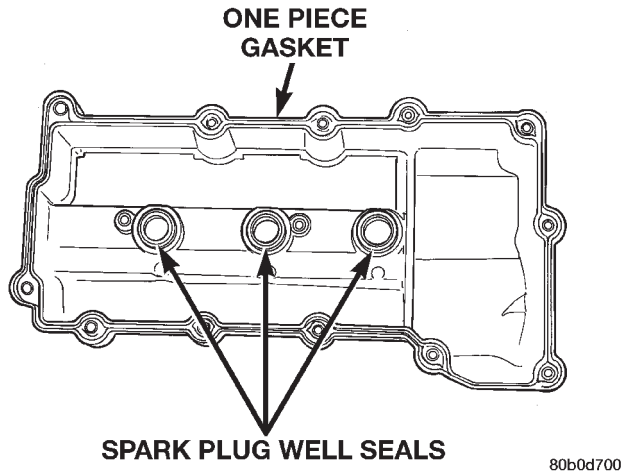

Fig. 35 Cylinder Head Cover Gasket and Spark Plug Seals
- (1) Clean cylinder head cover and both sealing surfaces. Inspect and replace gaskets as necessary (Fig. 35).